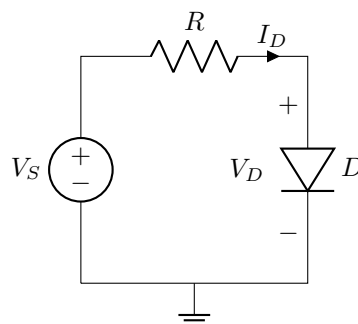

Figure 1: Forward-bias pn junction I-V characteristic measurement circuit.
Begin by constructing the circuit shown in Figure 1 on the breadboard using the small-signal silicon diode and the 1 k Ω resistor. Ensure that the diode is oriented correctly with the anode connected toward the positive supply terminal and the cathode toward ground. Set up the lab instruments to measure the diode voltage V_D and current I_D . To measure the voltage, connect the leads of the DMM (Digital Multimeter) across the diode terminals to measure the diode voltage directly. To measure the current, there are two options: connect a second DMM in series with the circuit (being careful to observe the current measurement limits of the meter) or measure the voltage across the resistor and calculate the current using Ohm's law ($I_D = V_R/R$). The second method is often preferred as it avoids potential issues with the meter burden voltage.
2. For the circuit in Figure 1, assume $V_S = 5\text{ V}$, $R = 1\text{ k}\Omega$, and the diode forward voltage is 0.7 V when conducting. Calculate (a) the voltage across the resistor, (b) the current through the diode, and (c) the power dissipated by the diode. Show all calculations.